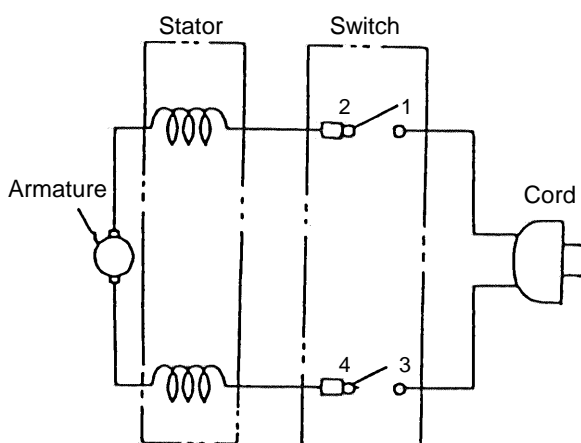

Fig. 12
(6) Wiring Diagrams (See Fig. 12 - 14)